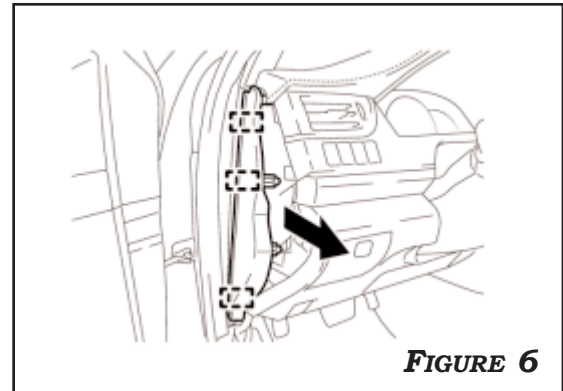

FIGURE 6
6. USE A TRIM TOOL TO DISENGAGE CLIPS AND REMOVE THE INSTRUMENT SIDE PANEL AND LOWER DASH PANEL ASSEMBLY. **FIGURE 6**